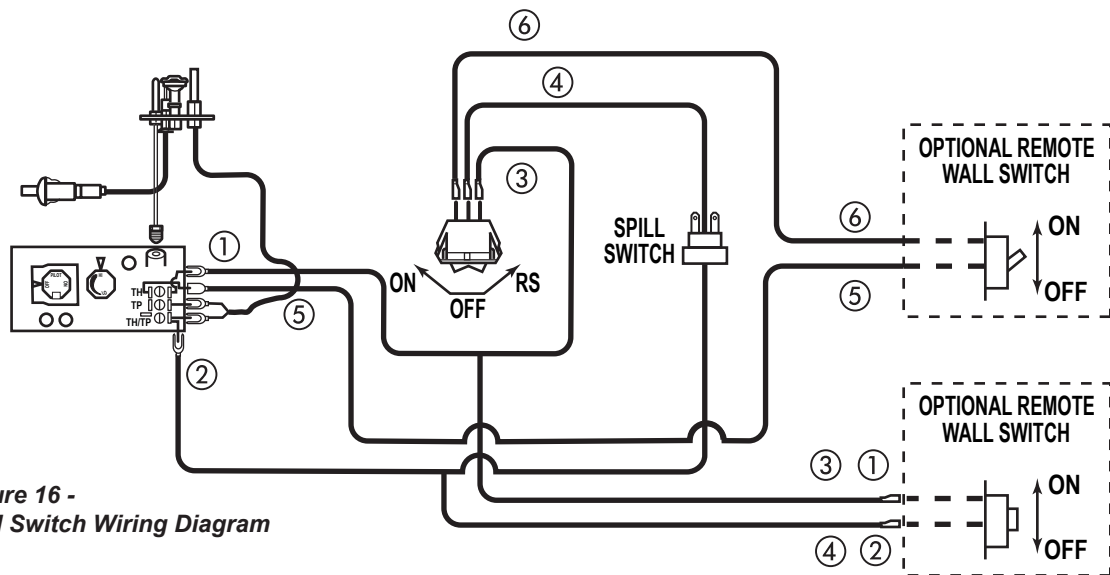

Figure 16 - Wall Switch Wiring Diagram
A remote wall switch and up to fifteen (15) feet of 18 Ga. wire may be used with this appliance. Attach the wall switch in a junction box at the desired location on the wall. *Figure 16.* Do not extend beyond the wall switch wire length provided.